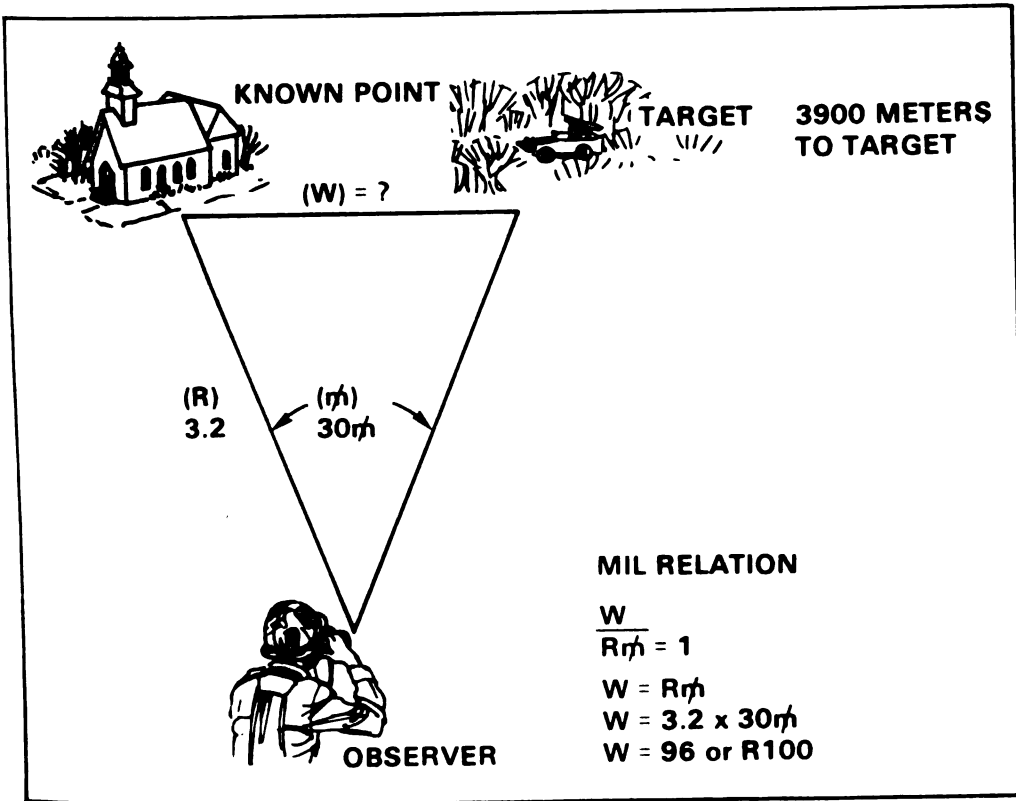

Figure 5
2. Determine the lateral shift from a known point to the target (see fig. 5) using the mil relation formula.
a. The formula is expressed as $\frac{W}{Rm} = 1$, where m is the angular measurement in mils between the two points, R is the distance in thousands of meters (expressed to the nearest 100) to the known points from which angle m was measured (fig. 5), and W is the lateral distance in meters.
b. A convenient way of using the mil relation formula is to cover the value desired and perform the calculation indicated. For example, to find the lateral shift in meters, the lateral distance (W) would be covered leaving the range (R) to be multiplied by the mils (m).
(1) For our purposes, the mil relation formula is used in conjunction with the distance to the known point expressed in thousands to the nearest 100 to determine lateral shift. The lateral shift in meters (W) is equal to the distance to the known point (R) times the angular deviation in mils (m).
(2) The distance to the known point is the distance from the observer to the known point (to the nearest 100 meters) divided by 1,000. For example, if the distance to the known point (church in fig. 5) is estimated to be 3,200 meters, the distance to the known point is 3.2.
3. Determine range change from the known point to the target (see fig. 5).